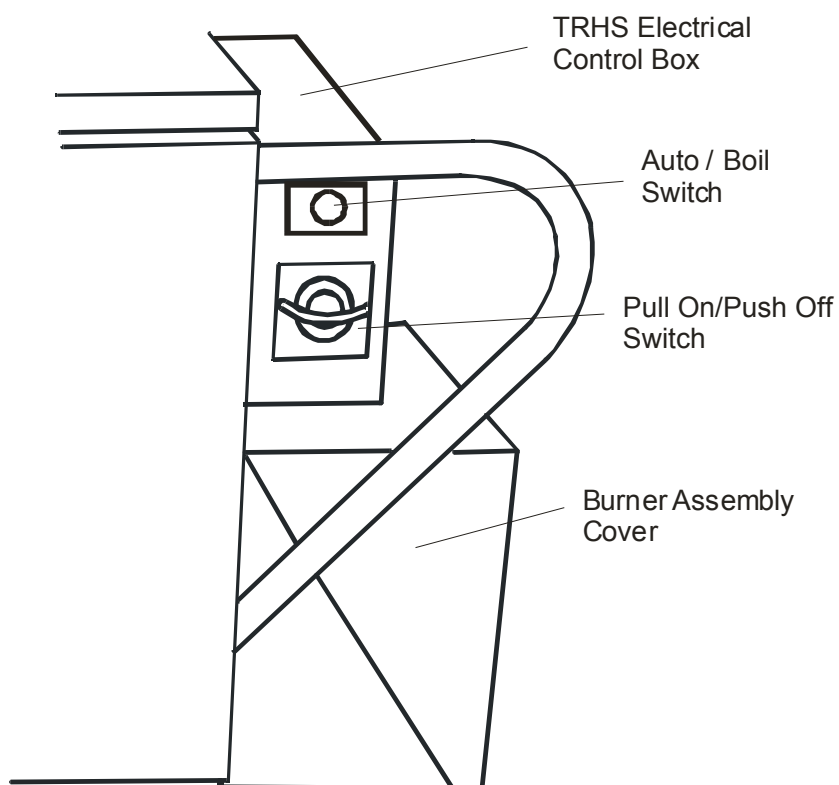

Figure 1-8. TRH Electrical Control Box
d. **TRH Electrical Control Box.** Table 1-5 contains pertinent power data; figure 1-8 depicts the red pull-on/push-off switch and the auto/boil switch on the TRH electrical control box. The stainless steel, weatherproof, TRH electrical control box houses the external, red, pull-on/push-off switch, which is the primary operating control for the TRH. The TRH electrical control box also contains the auto/boil switch, Amphenol plug, circuit breaker, and internal safety controls (thermodisc, low water sensor, and mercury tilt switch).